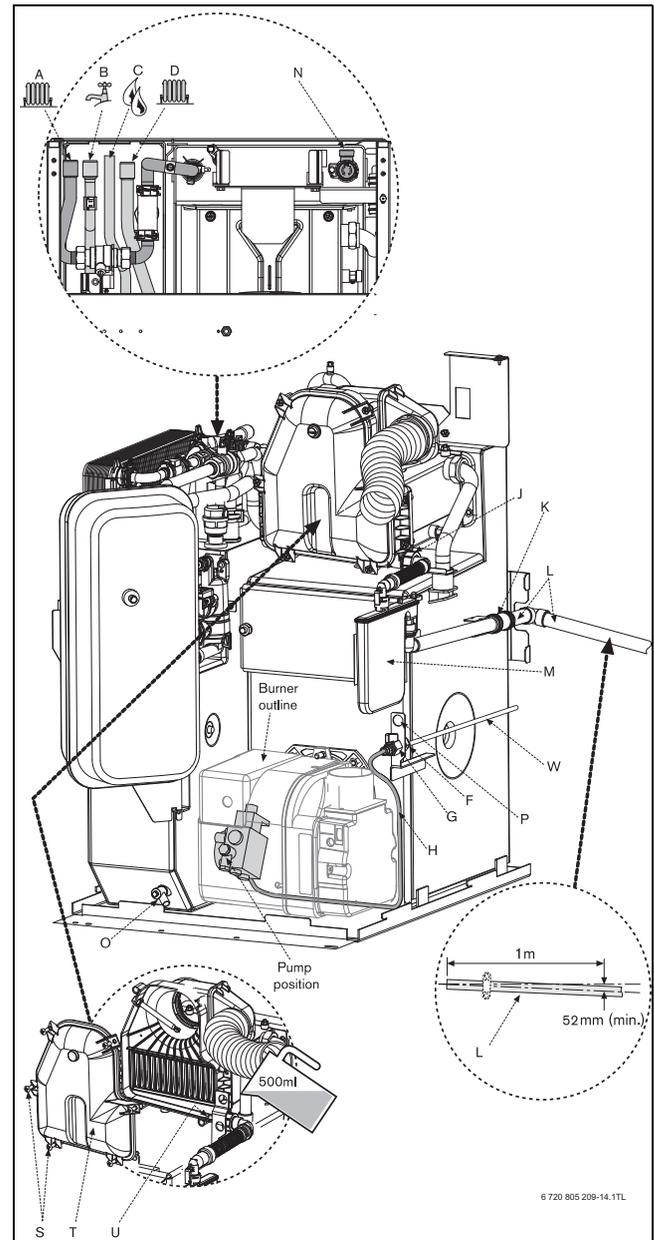

Fig. 34 Pipe connections
1. Check the inlet pipe connection (1).
- ▶ Unscrew return plug (2).
- ▶ Screw in by-pass screw (3) which is attached to the oil pump.
2. Connect the flexible oil pipe return hose (not supplied) to the oil pump and return pipe fixing and tighten to secure (for routing see figure 34).